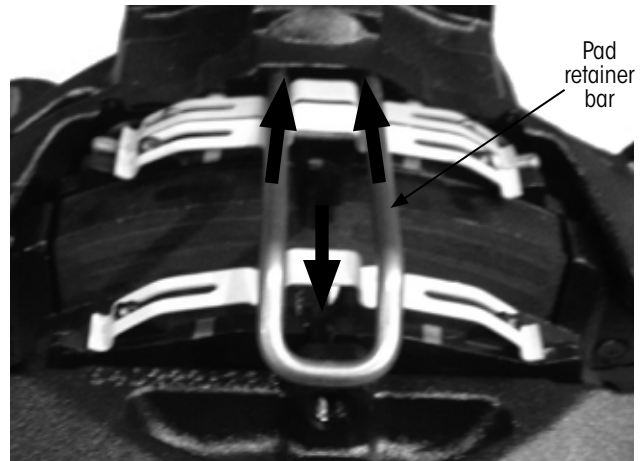

Figure 35: Installing pad retainer bar
10. **Insert** the pad retainer bar into the holes of brake caliper (Figure 35, arrows).